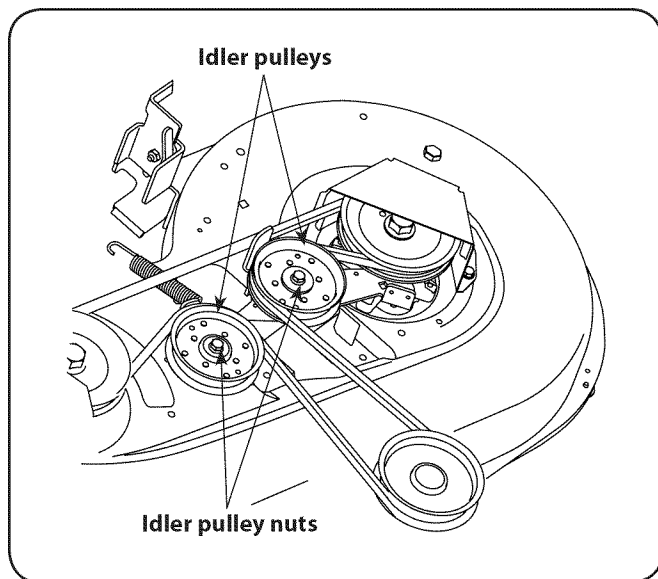

Figure 7-7
- On the 42-inch deck only, loosen but do not remove, the idler pulley nuts. This will enable the belt to be easily removed from the idler pulleys. See Fig. 7-7 on the next page.